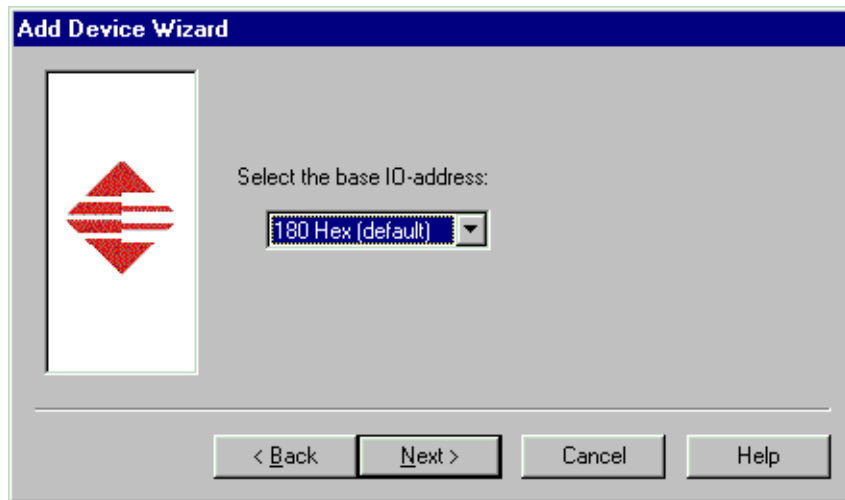

Figure 7. Set the I/O Base Address to 180.
11. Set the I/O Base Address to 180 Hex (see Figure 7), then click **Next**.